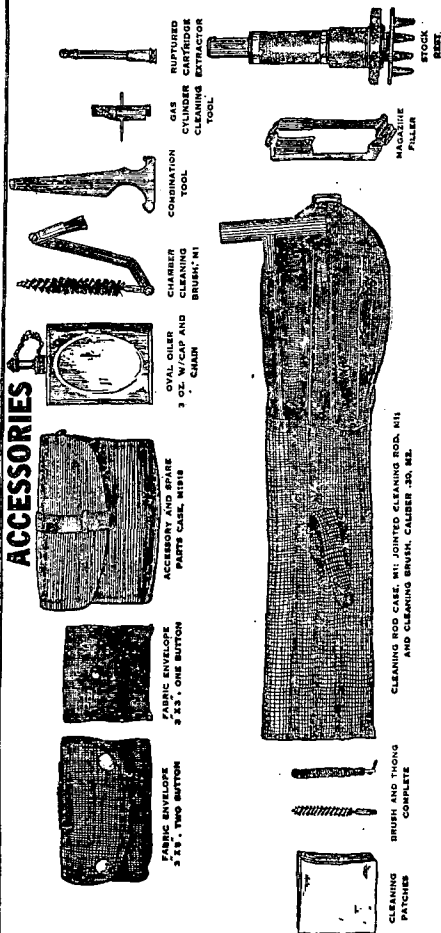

Figure 15—Spare parts and accessories.
■ 42. SPARE PARTS (fig. 15).—a. The parts of any rifle in time will become unserviceable through breakage or wear resulting from continuous usage. For this reason, spare parts are provided for replacement of the parts most likely to fail. These parts are for use in making minor repairs and in the general upkeep of the rifle. Twenty-round magazines also are issued as spares, the quantity being based on the allowance of ammunition authorized. Sets of spare parts should be maintained as complete as possible at all times, and all parts should be kept clean and lightly oiled to prevent rust. Whenever a spare part is used to replace a defective part in the rifle, the defective part should be repaired and substituted in the spare parts set, or a new one should be obtained. Parts that are carried in complete sets at all times should be assembled correctly and ready for immediate insertion in the rifle. The allowances of spare parts and of 20-round magazines are prescribed in Standard Nomenclature List No. A-4.